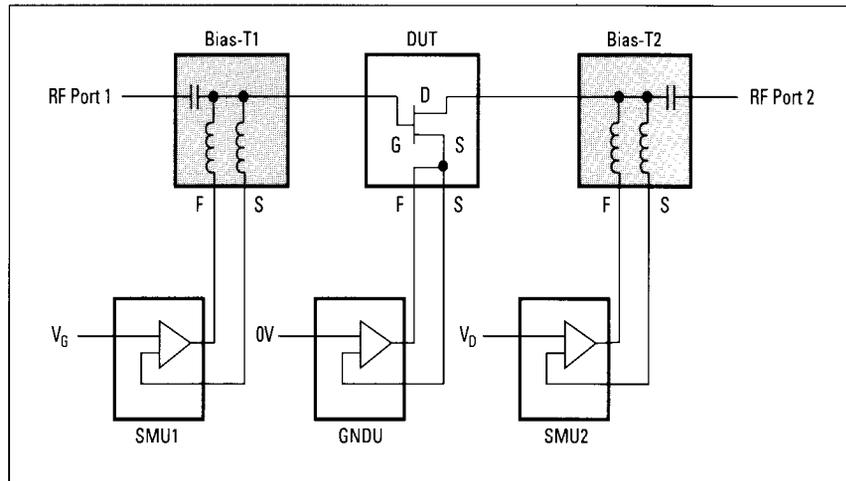

Figure 12.
Ideally, a dual-coil (force/sense) bias tee is desirable, which can be placed at the DUT RF-in and RF-out connections. Table 3 lists several models of HP bias tees which can be used to bias the DUT external to the RF test set. Bias tees with two DC ports can be used as shown in figure 12. The high DC resistance of the bias choke coil in the force (F) line does not affect the programmed voltage monitored by the high impedance sense (S) line. By calibrating the network analyzer at the fixture interface, RF impedance error from the external bias tees can be removed during S-parameter measurement.